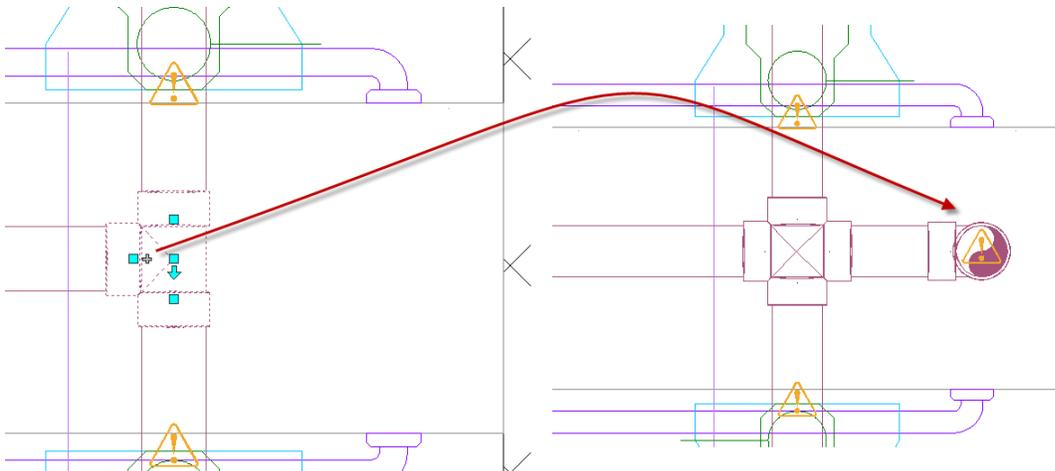

Figure 6.72 *Upgrade Tee to Cross then change Elevation to span to the floor above*
70. Change the elevation to: **12'-0"** to go to the next floor and then press ENTER (see Figure 6.72).